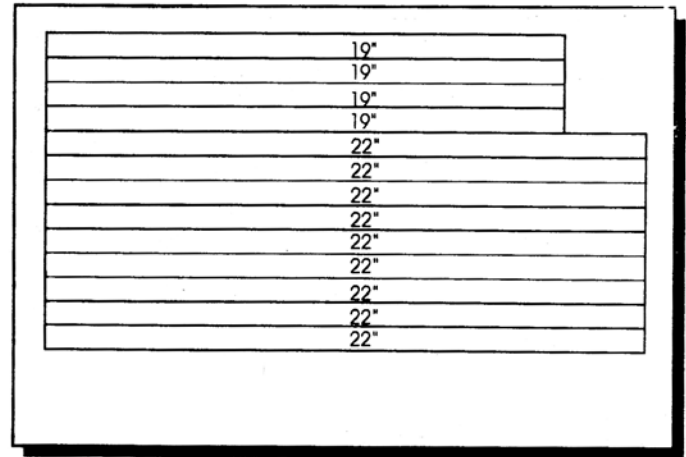

Figure 2- 2nd Floor
- Assemble with rounded side up for grooves in floor or flat side up for tight floor joints. See Figure 2.